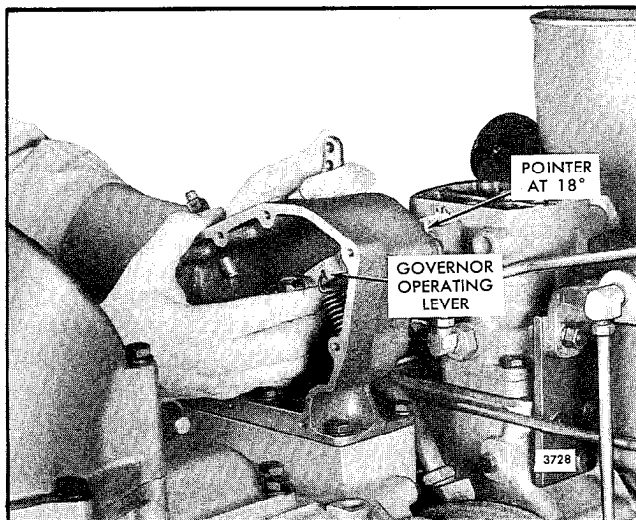

Fig. 6 - Moving Operating Lever
- c. Reach in behind the differential lever in the governor control housing and force the governor operating lever upward until the governor pointer is aligned exactly with the 18° mark (Fig. 6). Hold the lever in this position.